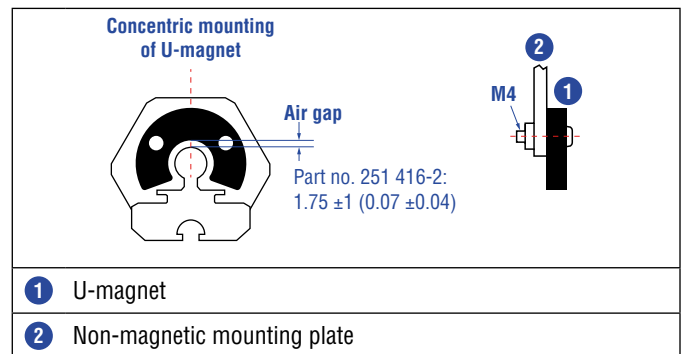
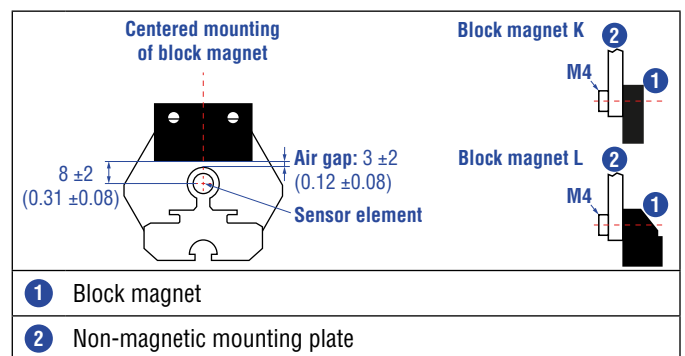

Fig. 46: Mounting of U-magnet (part no. 251 416-2)
Fig. 47: Mounting of block magnet (part no. 403 448)
- The maximum permissible air gap must not be exceeded (Fig. 46/Fig. 47). Take care to mount the primary sensor axis in parallel to the magnet path in order to avoid damage to the carriage, magnet and sensor rod/sensor profile.